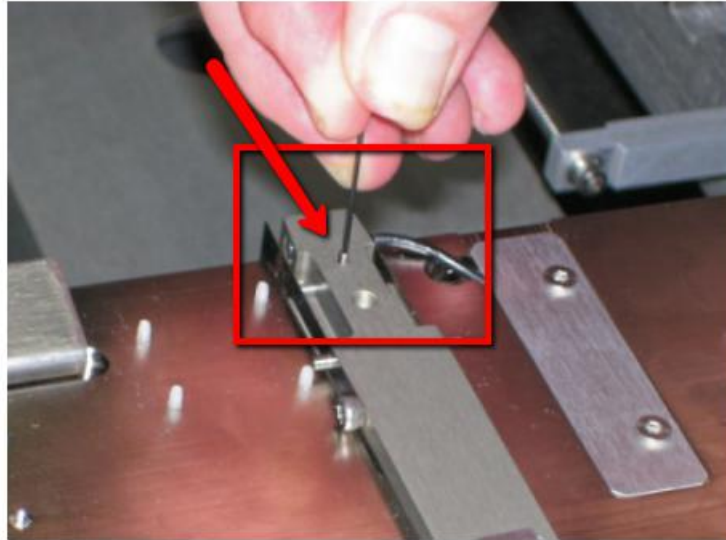

Figure 3 Top Set Screws Loosen
6. Loosen Set Screw which allocate at on top of PIP Board Stop as below Figure 3.